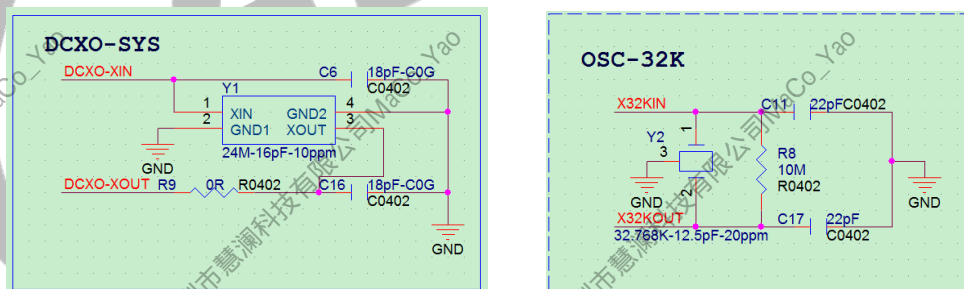

Figure 2-9 External Crystal
- The series resistors on the high-frequency crystal oscillator network X24MO must be retained to facilitate the debugging of the oscillation amplitude. The matching capacitance needs to be matched according to the load capacitance of the crystal. As shown in Figure 2-9.
- The frequency precision of external 32.768 kHz crystal is less than or equal to ± 20 ppm and can work stably in high temperature 70°C and low temperature -20°C; Must reserve the 10 M parallel resistor between X32KI and X32KO and do not change; the matching capacitance needs to be matched according to the load capacitance of the crystal. As shown in Figure 2-9.